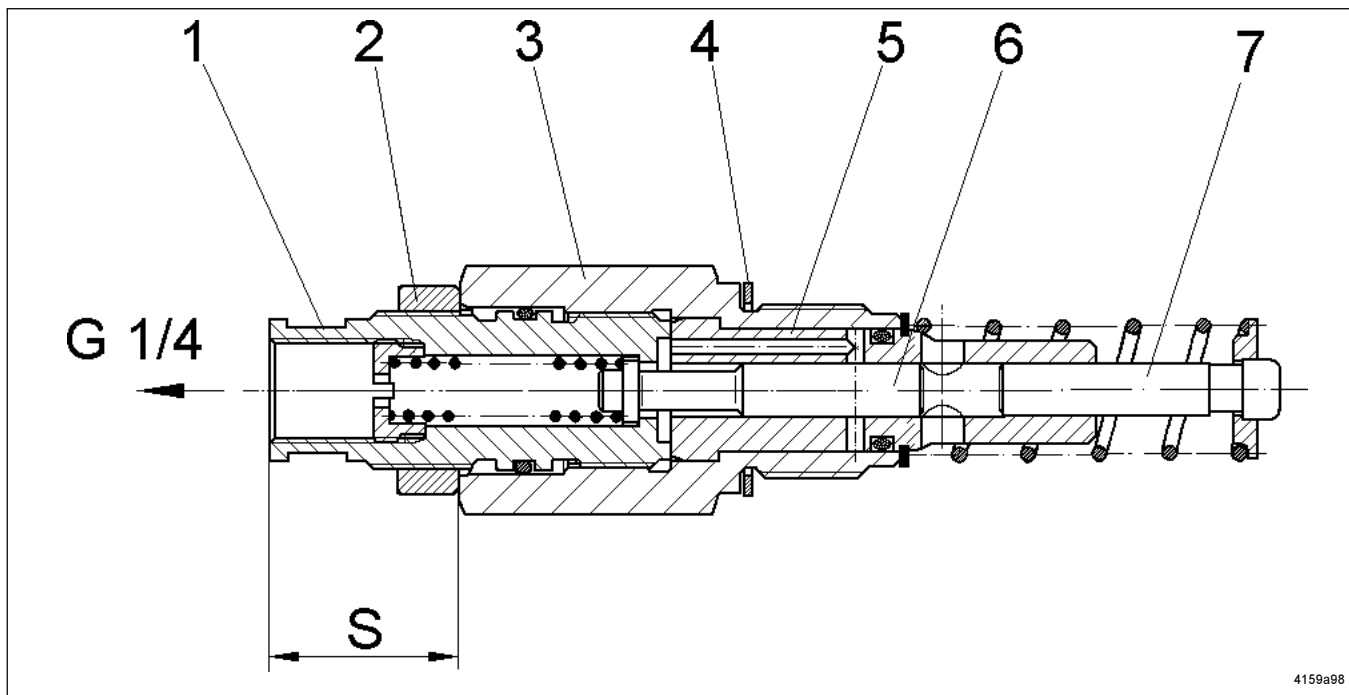
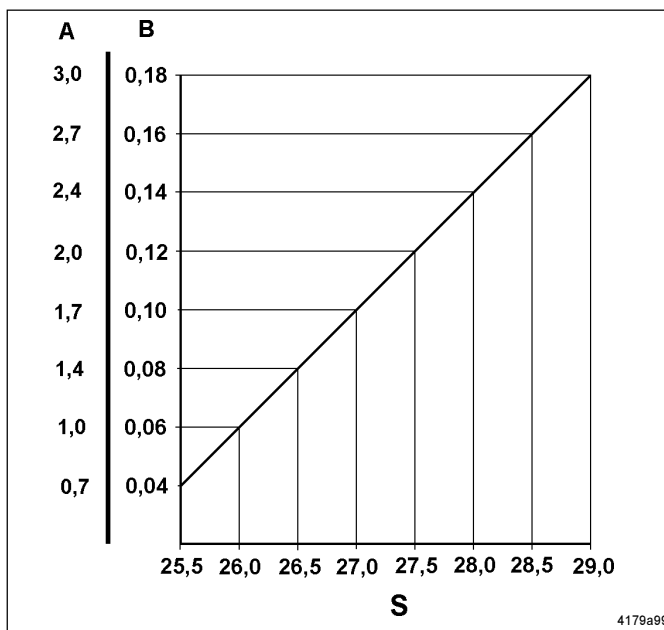

Fig. 10 - Sectional view: adjustable element
Fig. 11- Diagram for lubricant output
- Loosen counter nut (2, Fig. 10) while holding in position pump element body (3) by means of a second wrench.
- Change the position of the adjusting spindle (1) by means of a wrench.
- The dimension „S“ (see Fig. 10) for the desired lubricant output can be ascertained by using the delivery diagram shown in Fig. 11.
- Unscrew the adjusting spindle (1, Fig 10) from the pump element body (3) until „S“ is approx. 30 mm.
- Screw counter nut (2) onto stop collar of the adjusting spindle (1)
- Screw adjusting spindle (1) with counter nut (2) into pump element body (3) until stop.
- Dimension „S“ must be adjusted to the desired value in accordance with the delivery diagramm (Fig. 11).